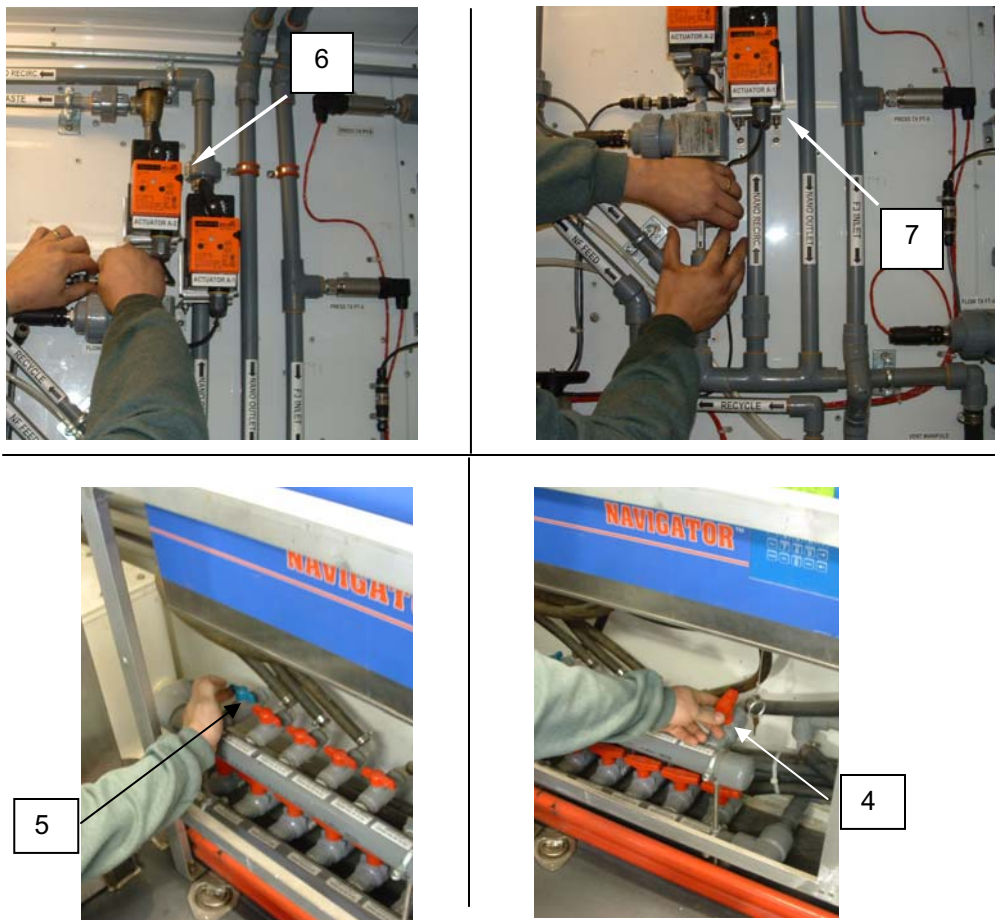

Figure 4. Water Treatment System Flush.
12. Reconnect Actuators A-3 (**Figure 4, Item 6**) and A-4 (**Figure 4, Item 7**).
13. Open the Automatic Soap Dispenser overflow valve V-61 (**Figure 4, Item 5**).
14. Close the Nanofilter split drain valve V-25 (**Figure 4, Item 4**).